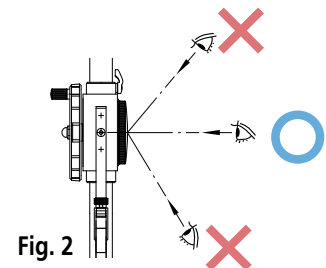

Fig. 2
1. Read the dial graduations from directly above to avoid parallax error. **(Fig. 2)**